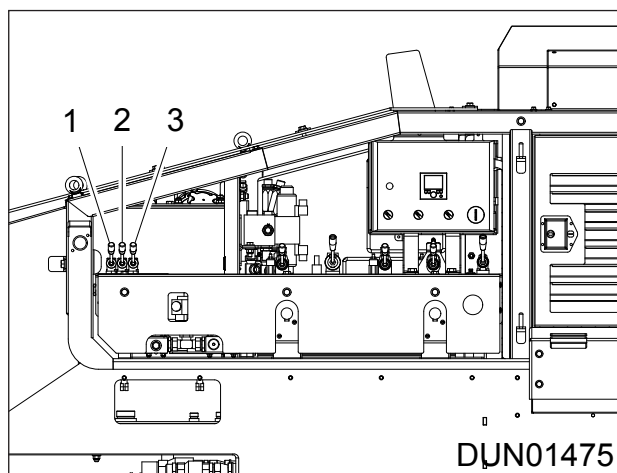
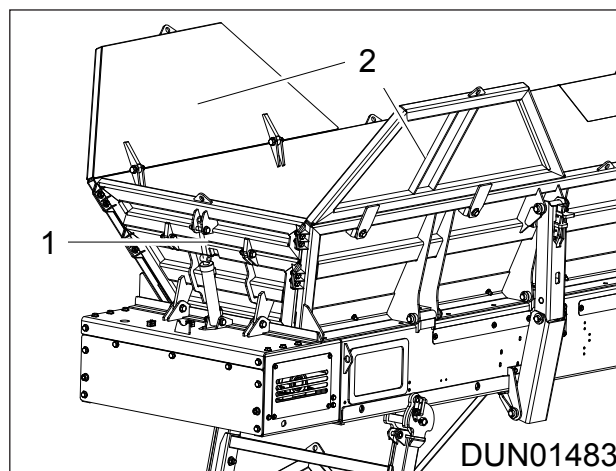

Figure 6.18 - Control Levers
Figure 6.19 - Hopper Doors Raised
2. Operate lever 1 (Ref. Figure 6.18), to fold the rear door of the hopper (Item 1; Ref. Figure 6.19), into its working position.
3. Operate lever (Item 1; Ref. Figure 6.18) and lever (Item 1; Ref. Figure 6.18) to fold the sides of the hopper up to the working position (Item 2; Ref. Figure 6.19).